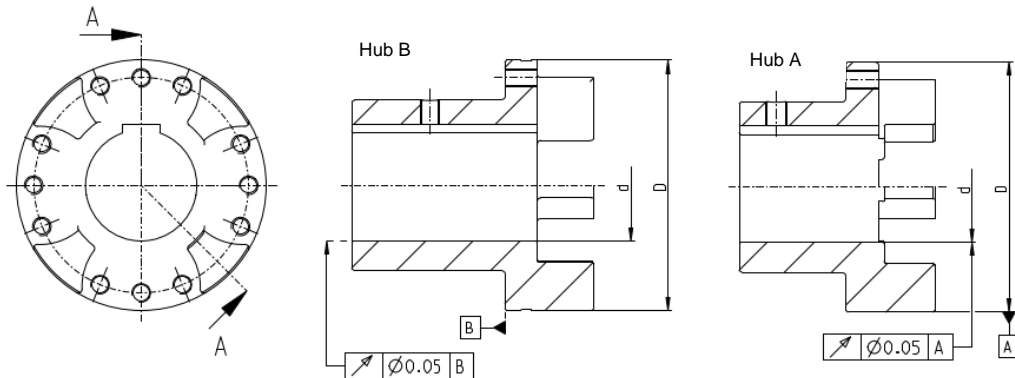

Figure 7.3: Specifications for the form and positional tolerance of the bore and position of the keyway nut
- the form and positional tolerances in accordance with DIN ISO 286 are adhered to (see figure 7.3).
If the hub is to be designed with a keyway nut, it is preferably to be introduced between the cams as in figure 7.3. The design and inspection of the keyway connection falls to the operator and is his responsibility.